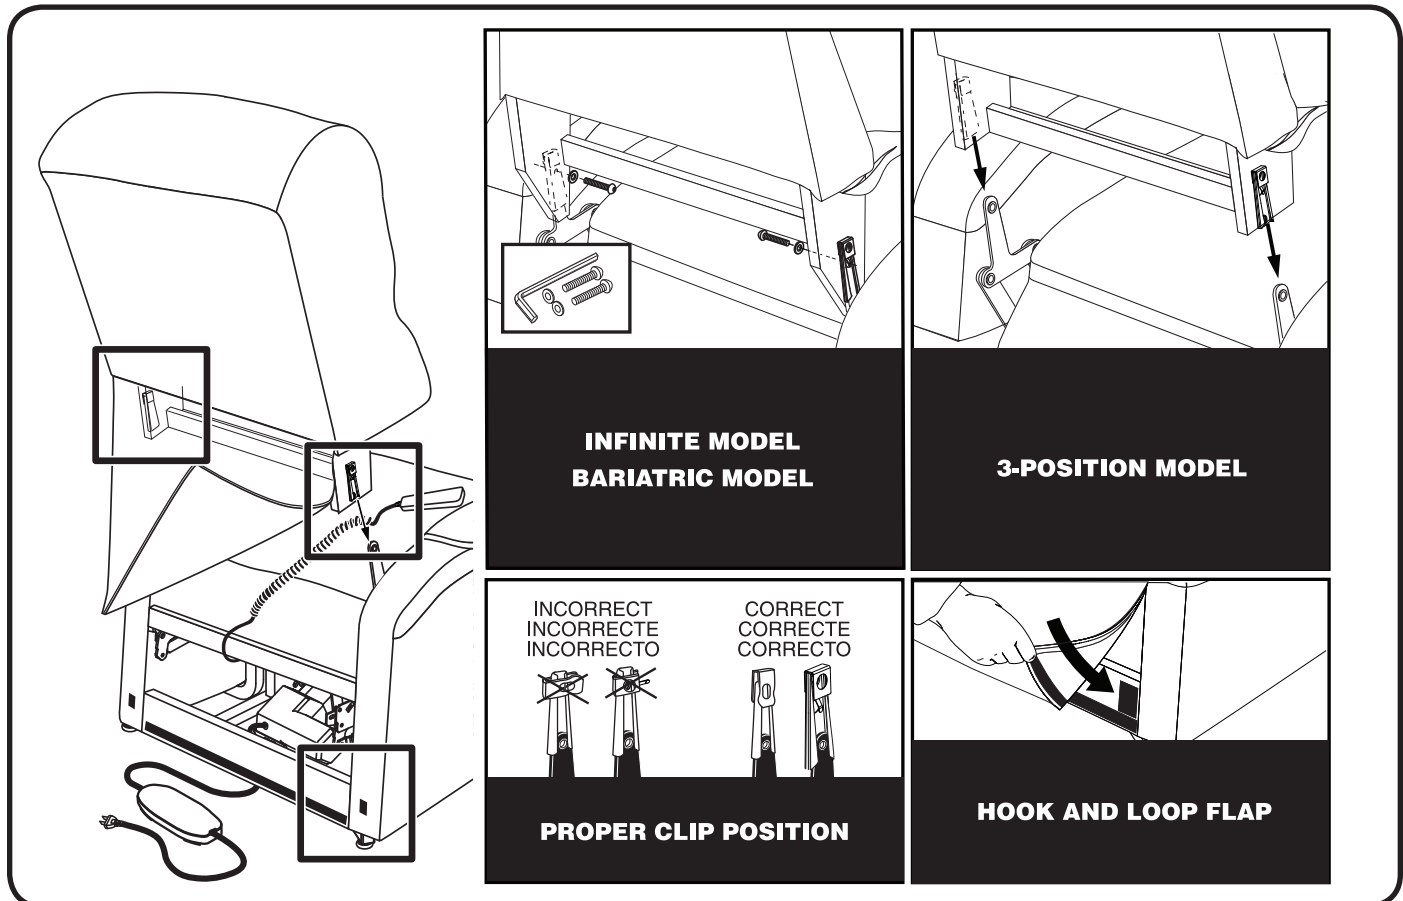

Figure 4.1 Chair Assembly
**NOTE:** If your chair is an Infinite model, refer to the assembly instructions provided with the chair. For the 2-position model, the KD sleeves are located on the inside as shown in figure 4.1.